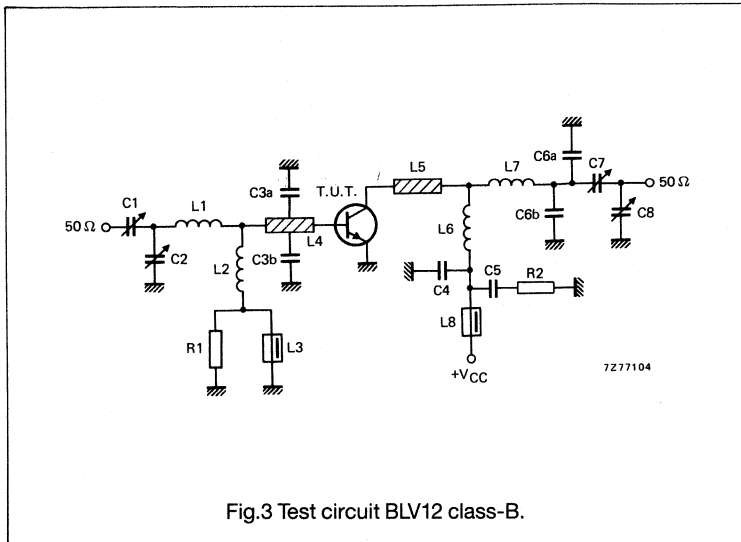

Fig.3 Test circuit BLV12 class-B.
**List of components (Fig. 3)**